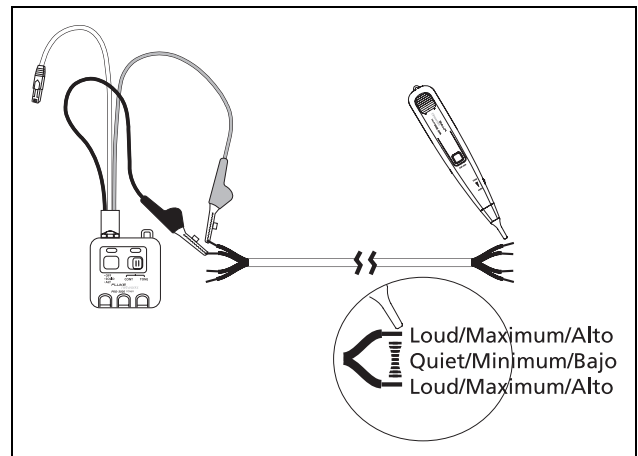

Figure 4. Tracing Pairs
- 2 Move the probe tip slowly at a right angle to the wires (Figure 4). If the tone's volume is HIGH over the first wire, LOW in the middle between the two wires, and HIGH over the second wire, then you have located the target pair.
To use the SmartTone function (Figure 4):